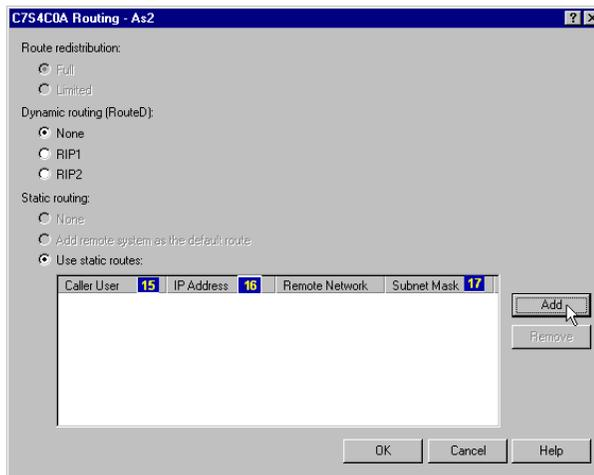

Figure 176. Configuring the Routing properties of the Answer profile (Part 1 of 3)
- d. Configure the Routing properties of the Answer profile (Figure 176).